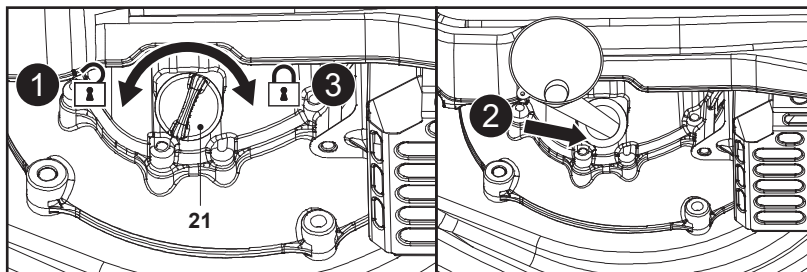

Fig. 8
1. Unscrew and remove the oil tank cap (21) (Fig. 8, step 1).
2. Gradually add good-quality engine oil (SAE 10W-30) with a suitable oil funnel (not delivered) (Fig. 8, step 2). Allow the oil to settle.
3. Check the oil level frequently while filling. Wipe off oil dipstick and insert it into the tank opening without tightening the oil tank cap (21), and then remove the dipstick again.
6. Wipe spilled oil with a soft cloth and reattach the oil tank cap (Fig. 8, step 3).